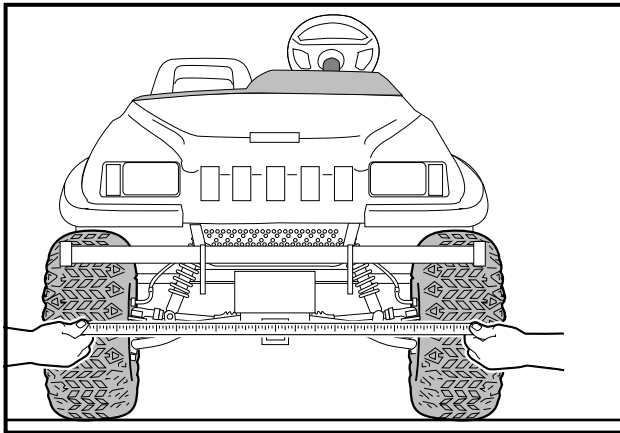

Figure 7-25 Measure Toe-in
4. Measure the distance between the marks on the forward-facing surfaces of the tires (**Figure 7-25, Page 7-13**). See following **NOTE**.